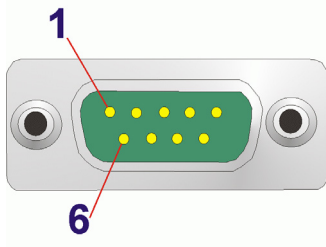

Figure 3-31: Serial Port Pinouts
- CN Pinouts:** See Table 3-29 and Figure 3-31